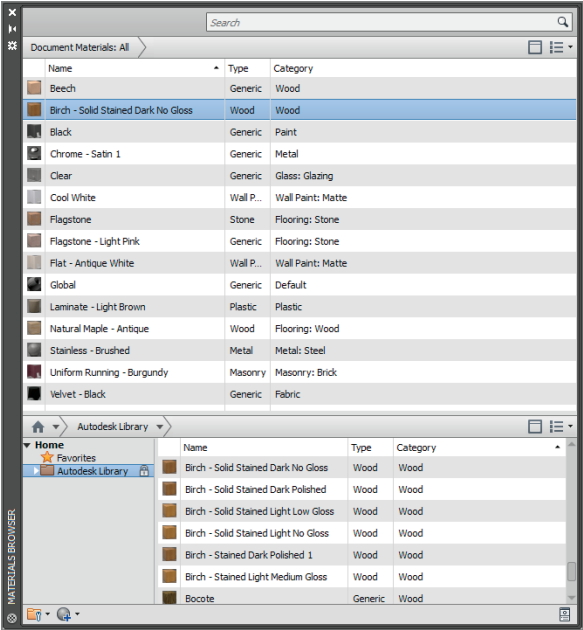

FIGURE 18.3 List of materials loaded into the current drawing
4. Drag the horizontal separator that splits the Materials Browser into two panes down. Figure 18.3’s top pane shows all the materials loaded into the current drawing. Close the Materials Browser.